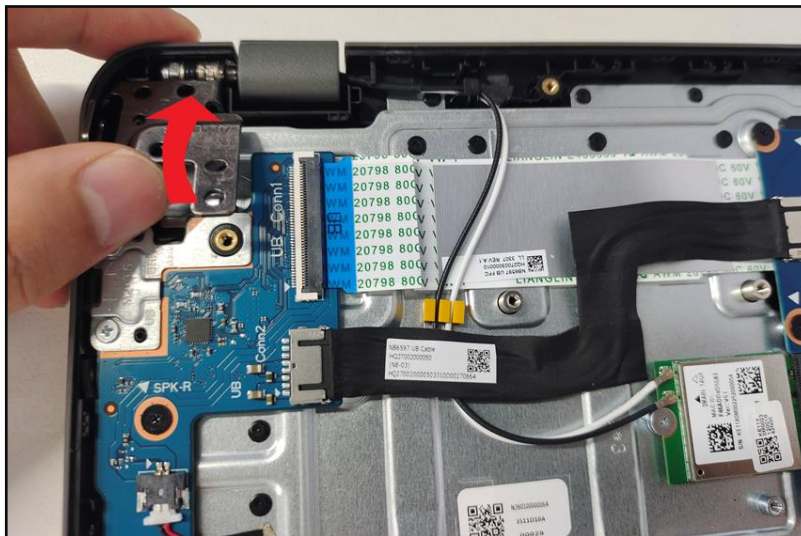

Figure 3-23. USB Board Removal
3. Close the top assembly and lift the right LCD hinge until it is slightly extended (Figure 3-23).